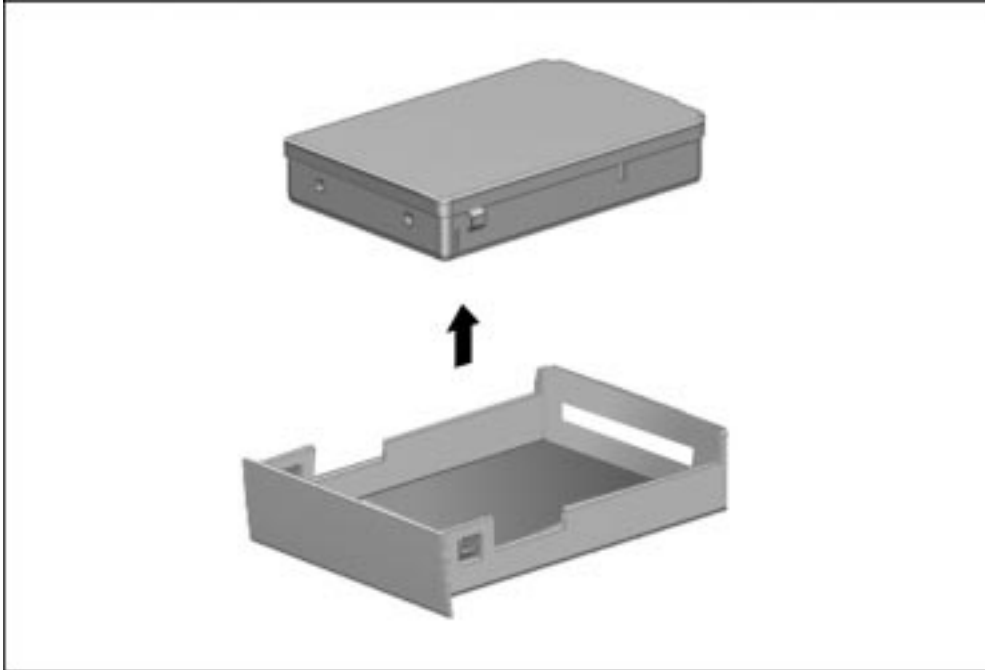

Figure 5-16. *Removing the Hard Drive from the Hard Drive Tray*
7. Pull the metal hard drive up and out of the plastic hard drive tray (Figure 5-16).